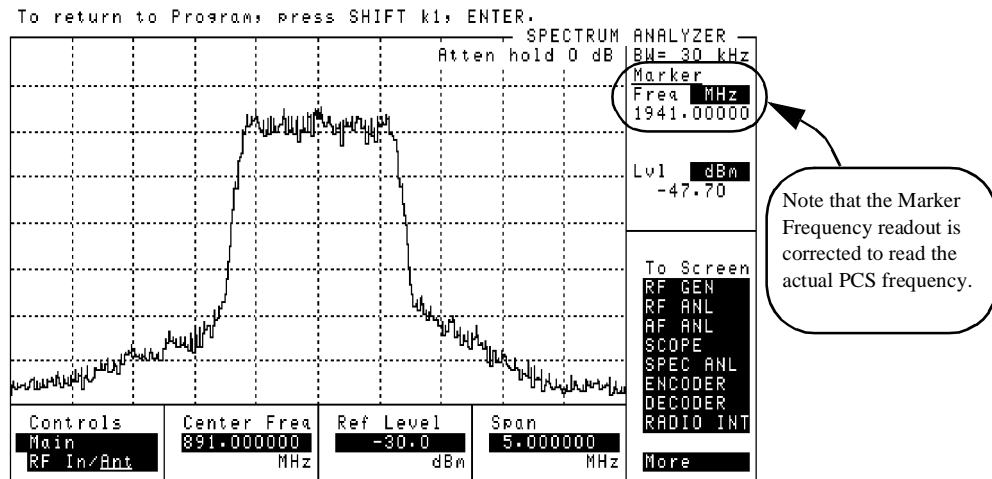

Figure 18
- 7 Scroll to and select **Go to Spectrum Analyzer Screen** to see the spectrum analyzer display (see figure 18). The center frequency of the displayed signal matches the frequency you entered in step 6.